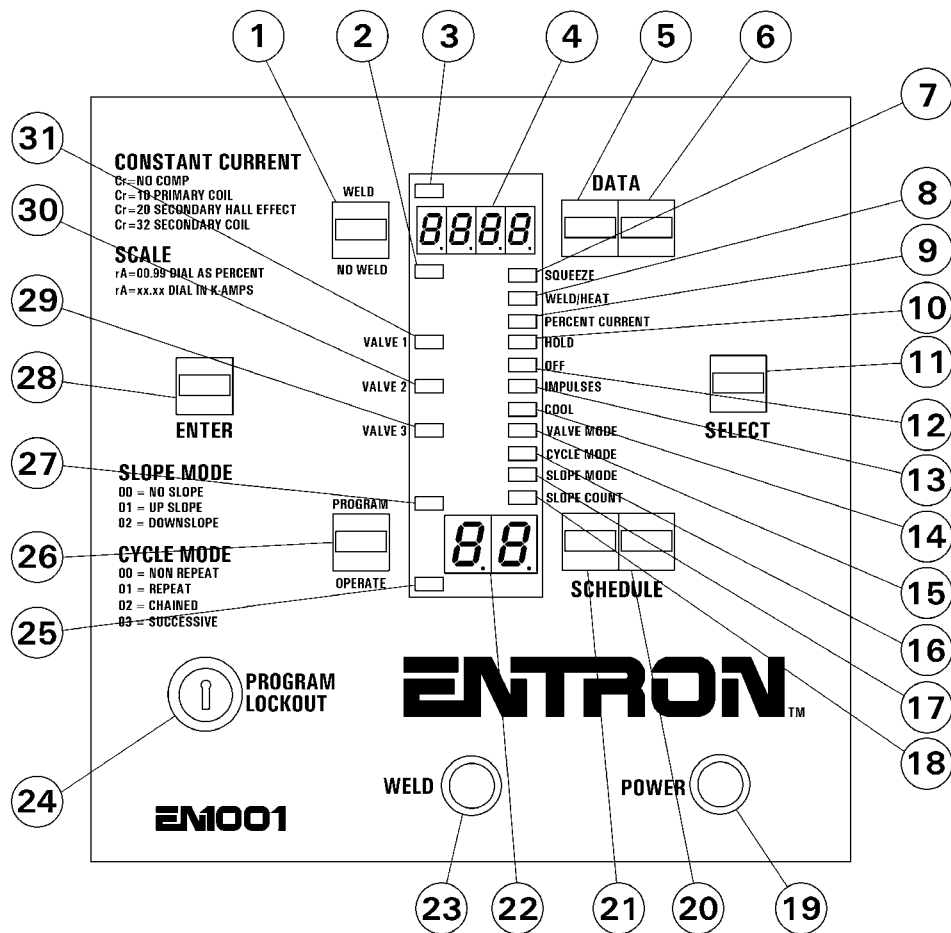

Figure 1. Control Board EN1000/EN1001 layout
2.1 CONTROL FUNCTIONS - See Figure 1, CONTROL PANEL LAYOUT
2.1 CONTROL FUNCTIONS - Continued - See Figure 1, CONTROL PANEL LAYOUT (Page 6)